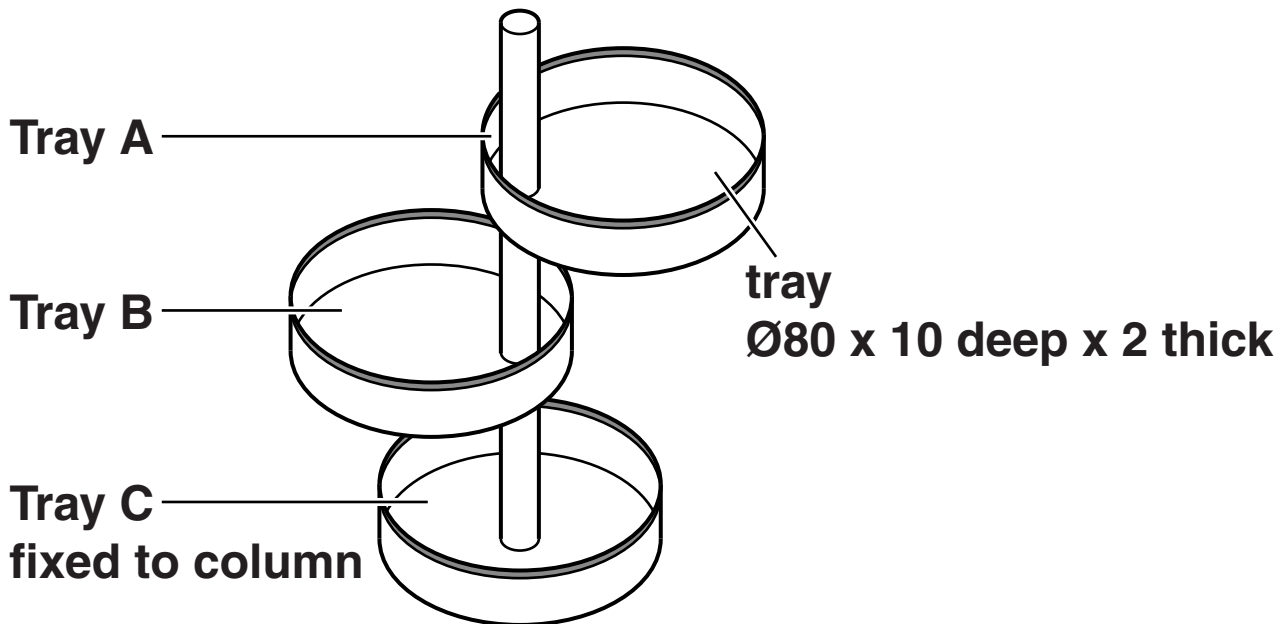

Fig. 8
- 5 Fig. 8 shows a prototype desk tidy. The trays used in the desk tidy are lids from containers that would have been thrown away. The trays are made from rigid polystyrene. Trays A and B can rotate about the column. Tray C is fixed to the column.